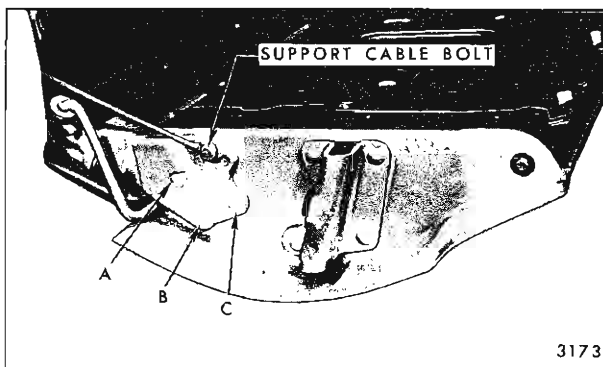
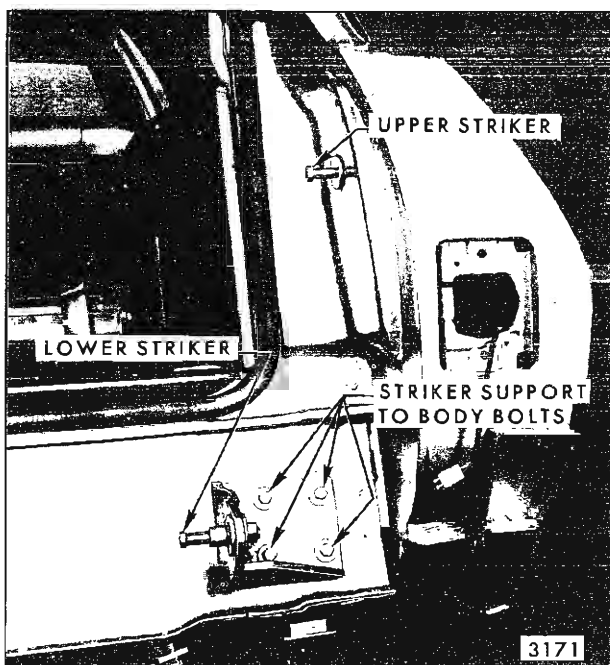

Fig. 9-11—Tail Gate Left Hinge Assembly - "B" Body Shown - "A" Body Typical
Fig. 9-13—Tail Gate Adjustments - "B" Body Shown - "A" Body Typical
**NOTE:** For purposes of illustration, Figure 9-11 shows tail gate open in the gate position.
- A. On "A" body styles, the support cable bolt is retained with a nut. On "B" body styles, this bolt fits into a tapping plate (Fig. 9-11).
- B. On "A" body styles, bolt A, Figure 9-11, fits into a tapping plate. Bolts B & C, Figure 9-11, are pressed into the hinge assembly and retained to the tail gate by nuts. The pressed bolts are removed with the hinge assembly - not separately.
- C. On "B" body styles, bolts A" B & C, Figure 9-11, are pressed into the hinge assembly and retained to the tail gate by nuts. The pressed bolts are removed with the hinge - not separately.
**IMPORTANT:** All nut retained bolts must be torqued to a minimum of forty (40) foot pounds to inhibit hinge slippage.
The left hinge to tail gate bolts are loaded into oversized holes that allow up or down and fore or aft adjustment (Fig. 9-11). The right striker support to body bolts are loaded into floating tapping plates that provide side to side and up or down adjustment. The lower striker is adjustable fore or aft and the upper striker fore or aft and up or down (Fig. 9-13).